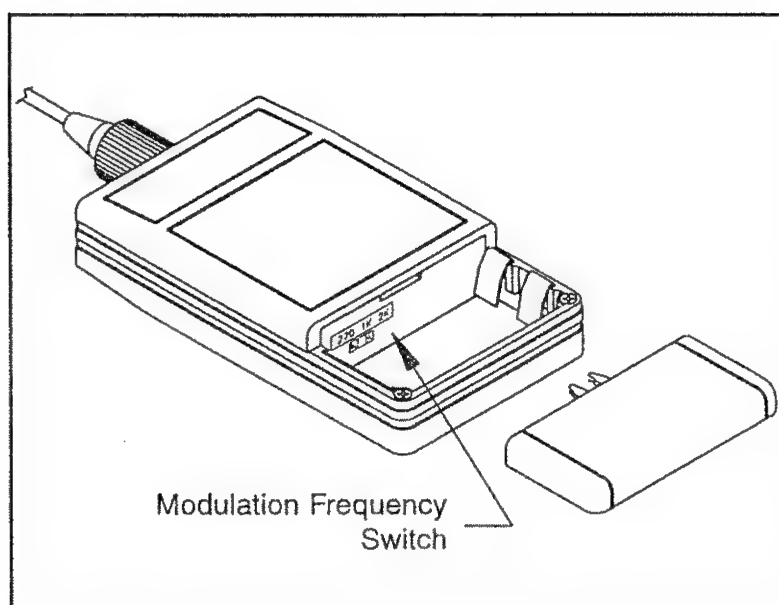

Fig. 3.2 Changing the Modulation Frequency of the TOP130/140/150/160 Sources
FREQUENCY SELECT	This switch, located inside the battery compartment, sets the modulation frequency. (See Figure 3.2)
These Source instruments are shipped with the modulation frequency switch set to 1kHz. To change this setting simply remove the two AA batteries and set the switch to the desired position (see Figure 3.2). Replace the batteries, battery cover, and protective instrument cover. To operate the instrument in the modulated mode, simply slide the main switch to the MOD position and the light will be square wave modulated. Note: The average power output will be 3dB less than the average power in CW mode.
- MOD** This button toggles between CW (Continuous Wave or DC, MOD indicator is off) and MODulated modes (source output is modulated, MOD indicator is on). When the MODulation mode has been selected, the MODulation frequency is determined by the setting of the Modulation Frequency Switch (270/1000/2000Hz) accessible via the battery compartment. (See Figure 3.2)